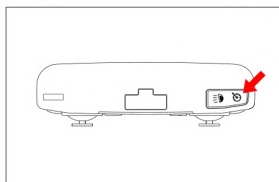

Figure24
2. Press and hold the fixed -speed cruise button (Figure 24) until the boat enters the fixed speed cruise mode.